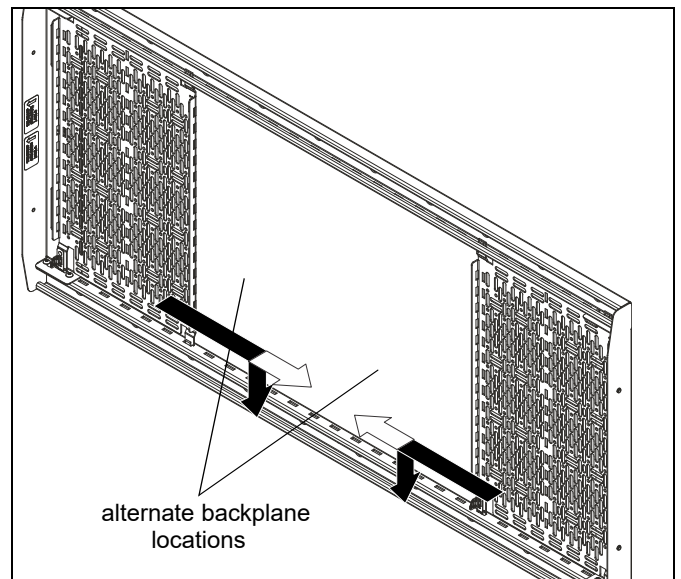

Figure 29
NOTE: Lever Lock™ shelves (D) may be installed at anywhere horizontally onto rail assembly (C) depending on application or user preference. (See Figure 29)